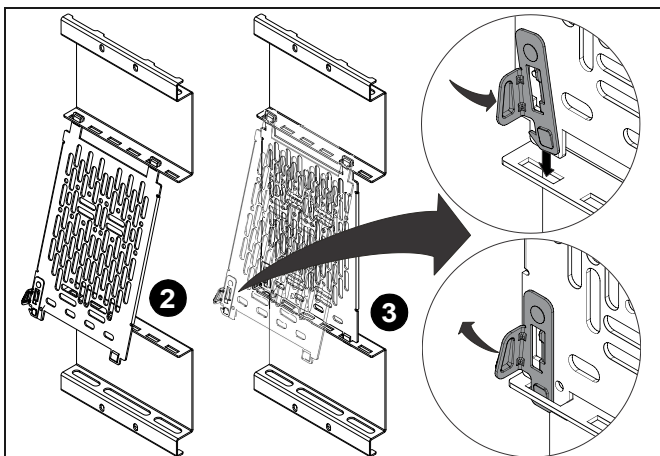

Figure 2
3. Pivot panel in and slide it down toward the slots on lower side of the rear frame panel opening. The panel will snap into the slots, securing it to the rear frame. (See Figure 2)